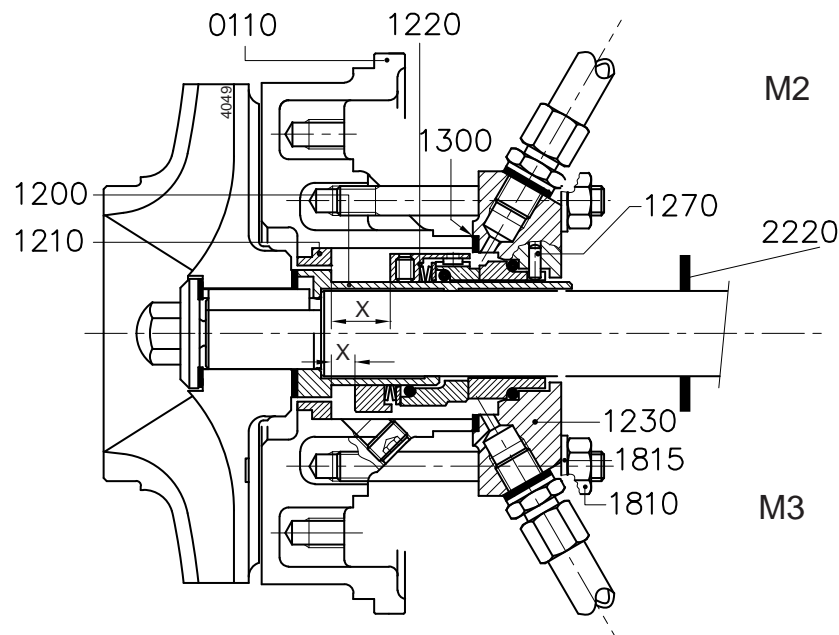

Figure 12: Mechanical seal M2-M3.
The item numbers used are referring to figure 12.
- 6 Fix the rotating part of the seal on the shaft sleeve according to dimension X in Table 4. See figure 12.